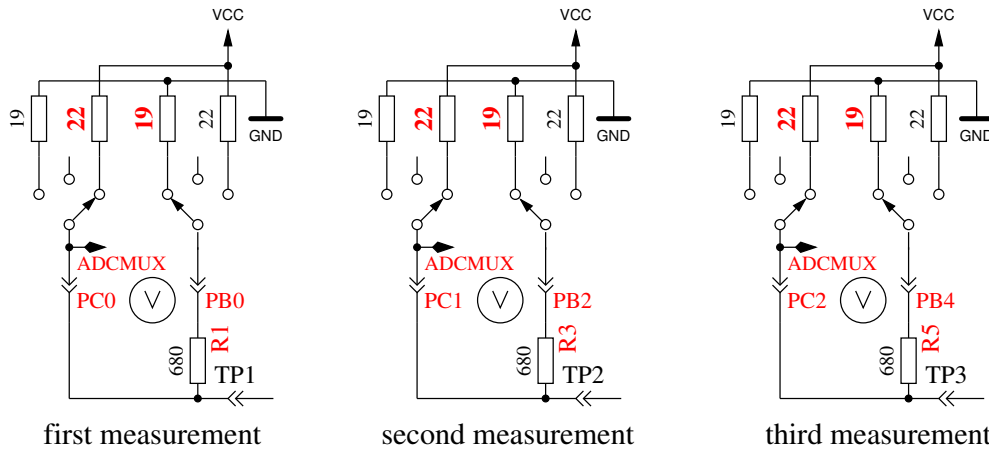

Figure 5.39: Measurement of internal resistance of Port C switched to VCC
8. **Measuring of internal resistance of port outputs switched to the VCC (+)signal.** The needed current is generated with to GND connected 680Ω resistors . It are the same measurements as those in test 7 to the other side as you can see in Figure 5.39. With the following steps the resistance is computed: To get the current, the following is computed: $(VCC - (resultoftest7) - (resultoftest8))/680$. To get both resistor values, the voltage (result of test 7 or 8) is divided by this current. The result for this test will then be notified in row 1 with the text "RI.Hi=", the resistance value (Ω) to the GND side is displayed in row 2 with the text "RI.Lo=". Both results will be written to the EEprom memory and will be used for further measurement.